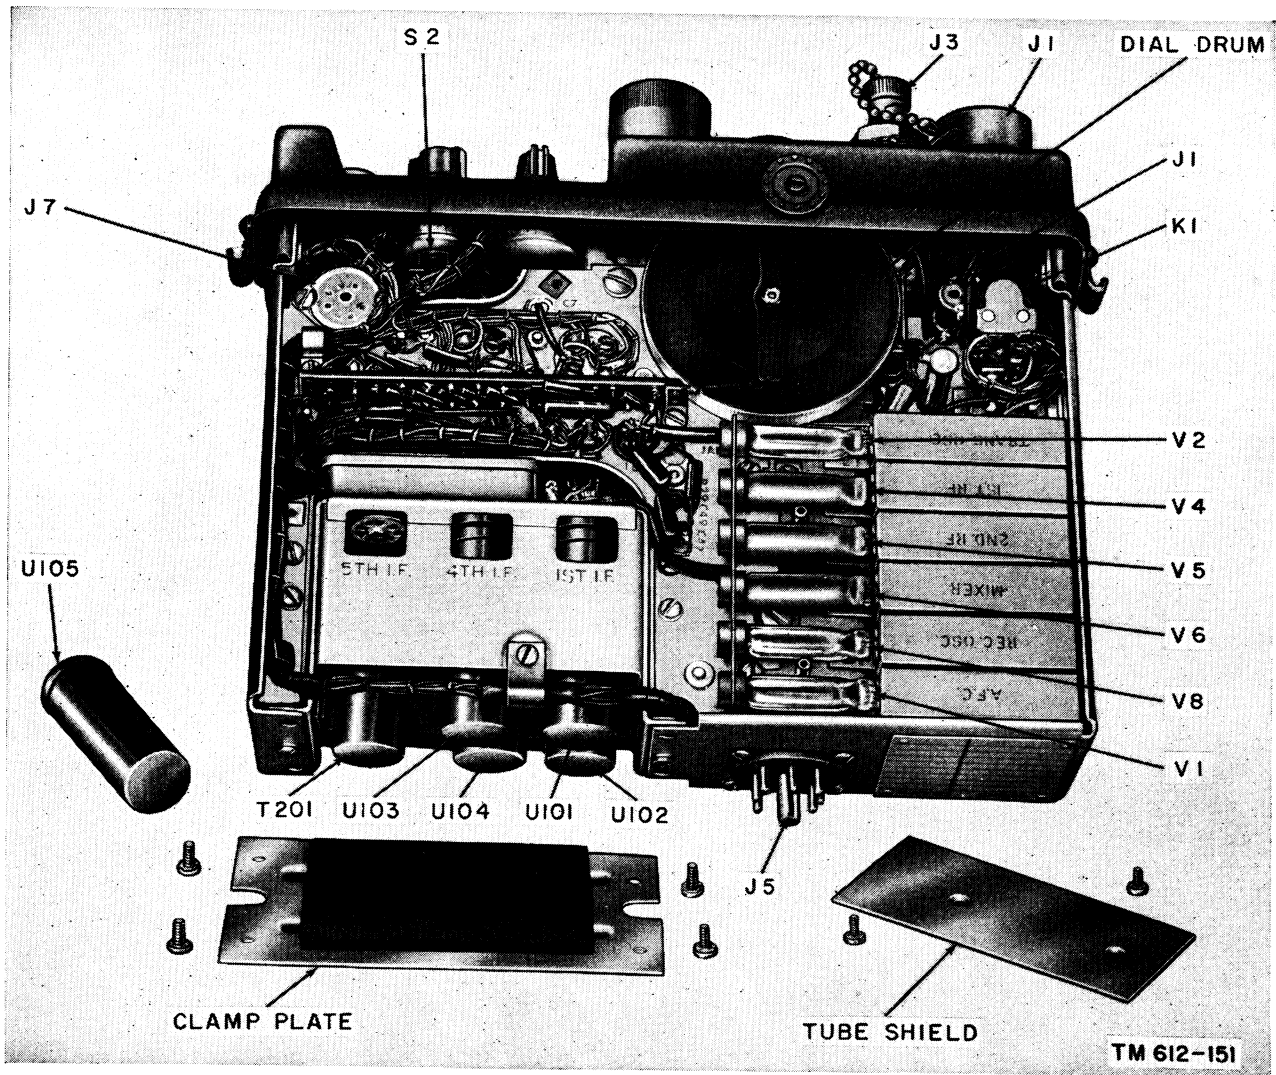

Figure 7. Receiver-transmitter chassis, top view.
- (1) *Box subassemblies.* Six metal box subassemblies are mounted on the chassis. Viewing the chassis from the top and rear, these boxes are on the right-hand side of the chassis (fig. 7). Each box has a subminiature tube plugged into a socket
Reference symbol	Name of box (fig. 7)